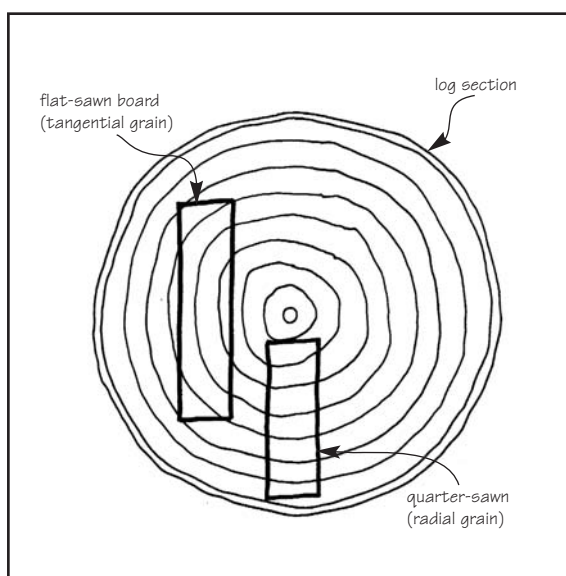

Figure 1. Direction of grain in sawn boards.
- are quarter-sawn as opposed to flat-sawn – especially on exposed (north and west) sides of the building (see Figure 1).